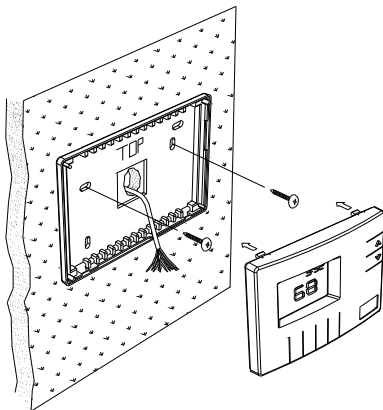

Figure 1
5. Mount the base to the wall using the two #6 x 1/2" self-tapping screws supplied - See *Figure 1*.